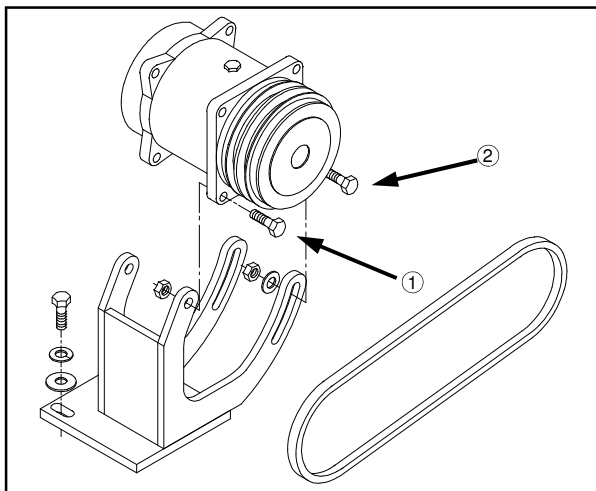

FIG 7.45
To tighten air conditioner compressor belt, loosen the two pivot bolts (fig. 7.45, item 1) and the two slide bolts (fig. 7.45, item 2). Using a suitable prying tool, adjust tension on belt to desired tautness. While maintaining tension, re-tighten all four bolts. Inspect belt every 250 hours.